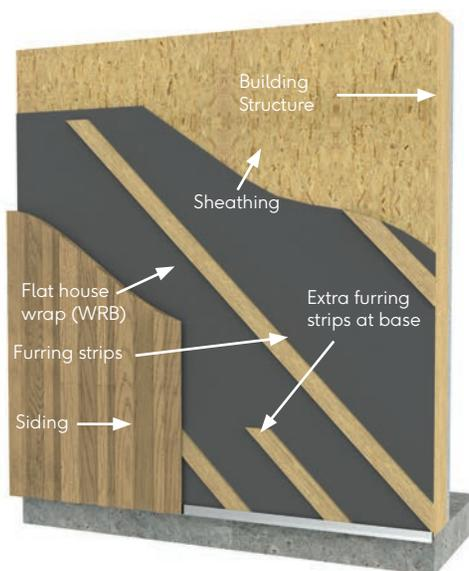

Fig.4 - Typical wall build-up with furring strips
2. Install the furring strips at an angle, with the centers reduced to 12" or 16" respectively. (Fig.4)